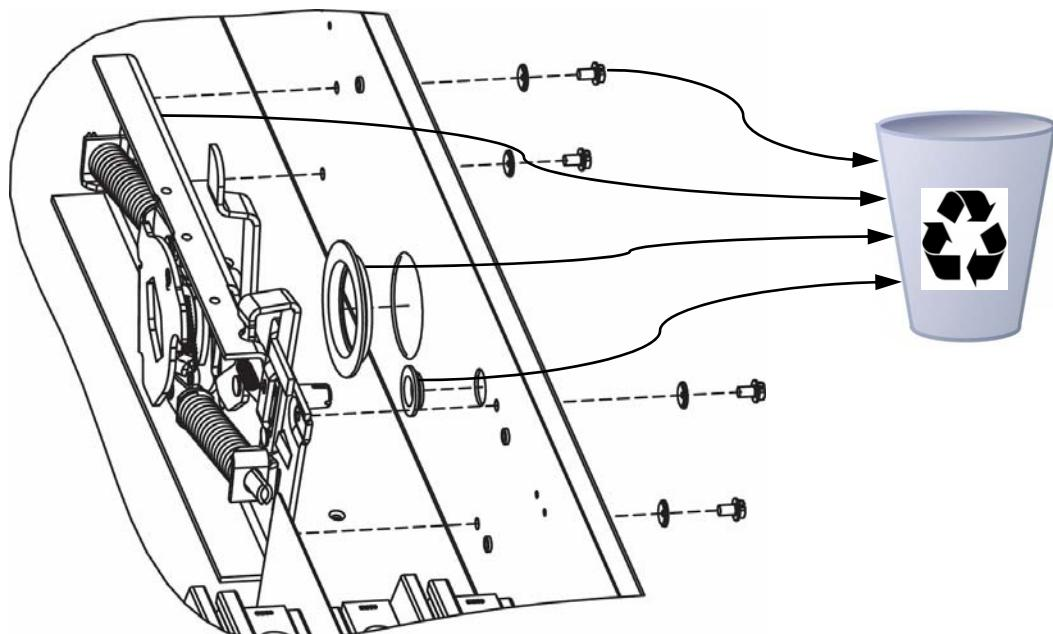

Fig. 9
8. Dispose of the mechanism and it's hardware as shown in Fig. 9.